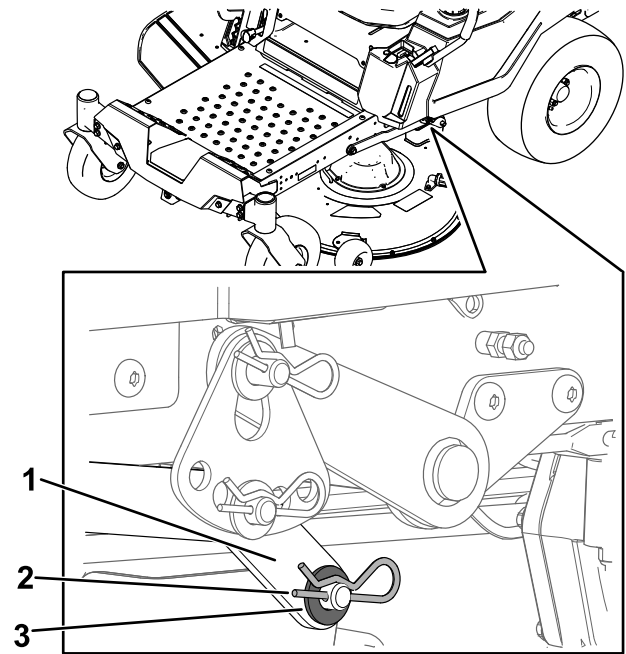

**Figure 64**
- Remove the hairpin cotter from the front support rod, and remove the rod from the deck bracket (Figure 64).
- Attach the front support rod to the mower deck with the clevis pin and hairpin cotter (Figure 64).